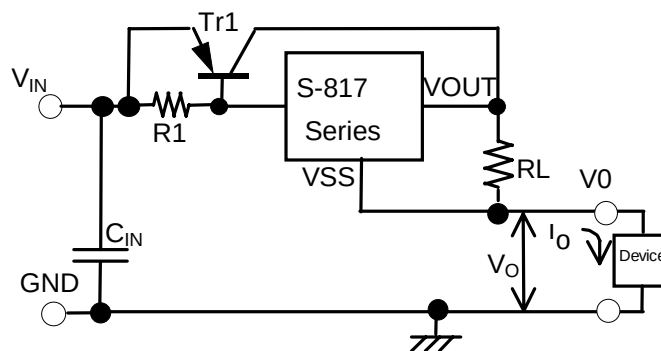

Figure 11 Constant Current Circuit
The S-817 Series can be configured as a constant current circuit. See Figure 11. Constant amperage I_o is calculated using the following equation
Please note that it is impossible to set constant amperage I_o in case of circuit (1) of Figure 11 to the value exceeding the drive ability of the S-817.
However, circuit (2) of Figure 11 is an example to set constant amperage to the value exceeding the drive ability of the S-817. Circuit (2) incorporates a current boosting circuit. The maximum input voltage of the constant current circuit is the value obtained by adding 10 V to voltage V_o of the device. It is not recommended to attach a capacitor between the S-817 power source V_{IN} and V_{SS} pins or between output V_{OUT} and V_{SS} pins because rush current flows at powering on. An example of input voltage between V_{IN} and V_o in circuit (2) vs. I_o current characteristics